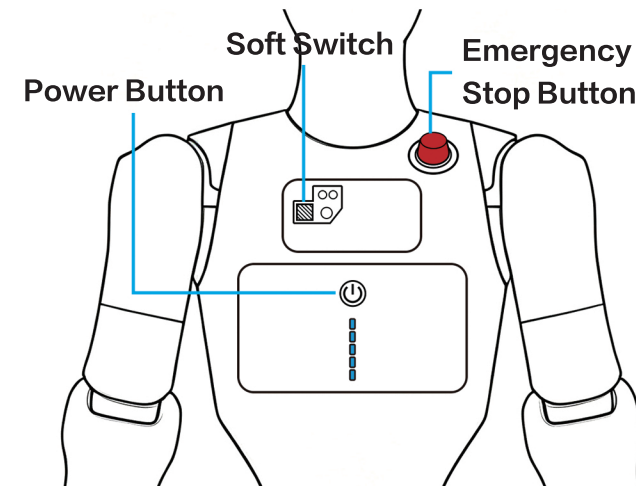

Figure 3
2. Remove the cover plate above the power button. Press and hold the square soft switch until the rear fan starts spinning and hot air blows out, then release (Figure 3)